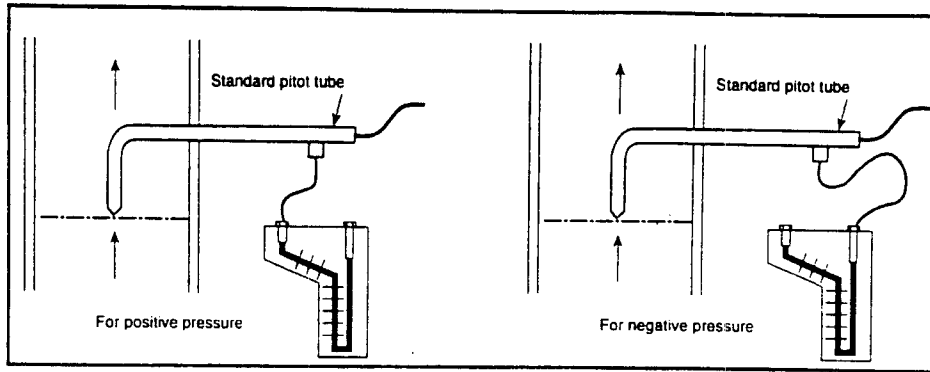

Figure A-9. Arrangement for determining the static pressure,  $P_s$
- Step 6. Obtain a value for  $P_s$ , the stack static pressure, by inserting a standard pitot tube into the center of the duct and measuring the pressure on the static tap of the tube as shown in Figure A-9. If the stack pressure is positive, attach the tube to the left-hand side of the manometer. If the stack pressure is negative, attach the tube to the right-hand side of the manometer.